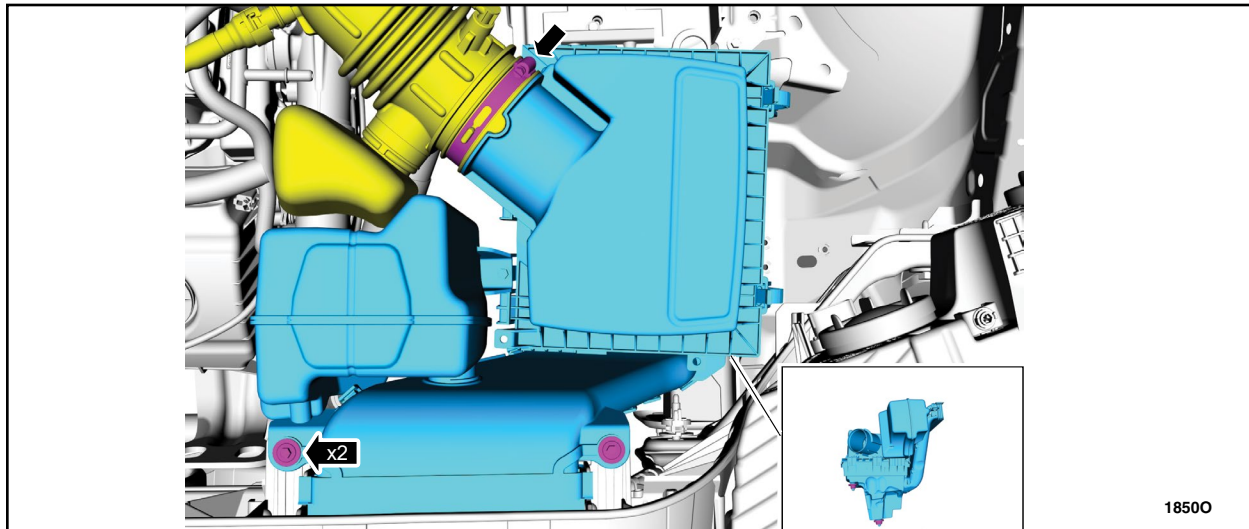

FIGURE 18
2. Remove the air cleaner. See Figure 18.